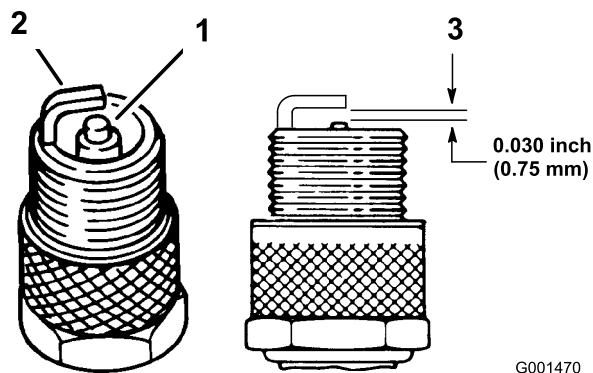

Figure 34
1. Look at the center of the spark plugs (Figure 34).
3. Check the gap between the center and side electrodes (Figure 34). Bend the side electrode (Figure 34) if the gap is not correct.
3. Connect the wires to the spark plugs (Figure 34).